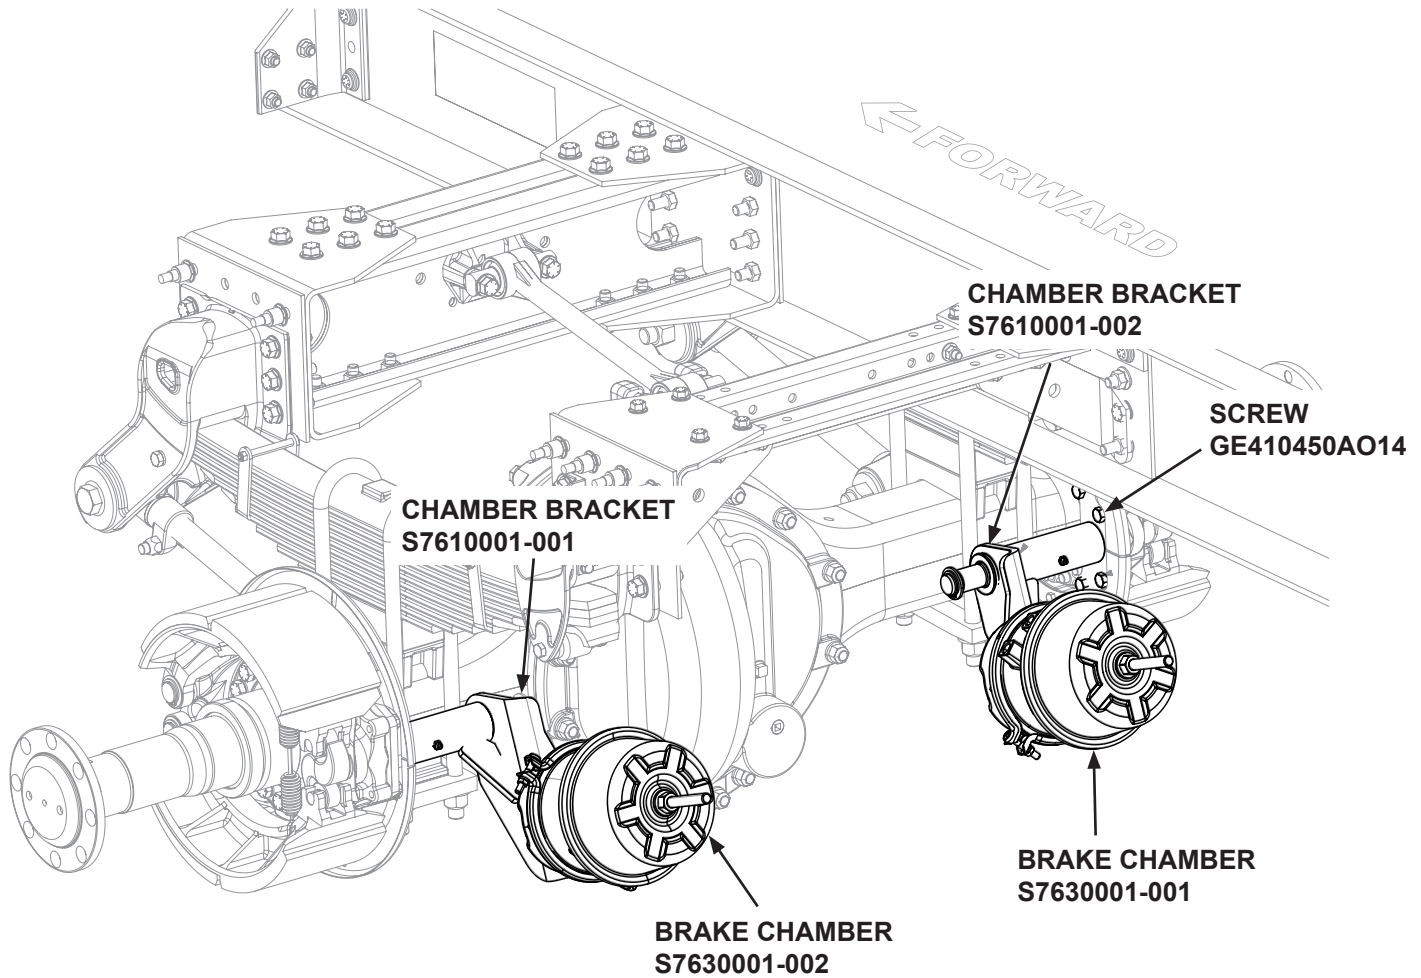

Figure 1
11. Repeat steps 4 through 10 for the right-hand side of the vehicle utilizing the new brake chamber bracket (S7610001-002) and the new brake chamber (S7630001-001) (see *Figure 1*).